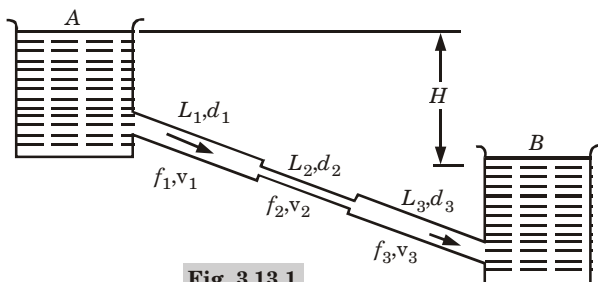

Fig. 3.13.1.
2. Pipes are in series, as shown in Fig. 3.13.1, hence the discharge passing through each pipe is same.